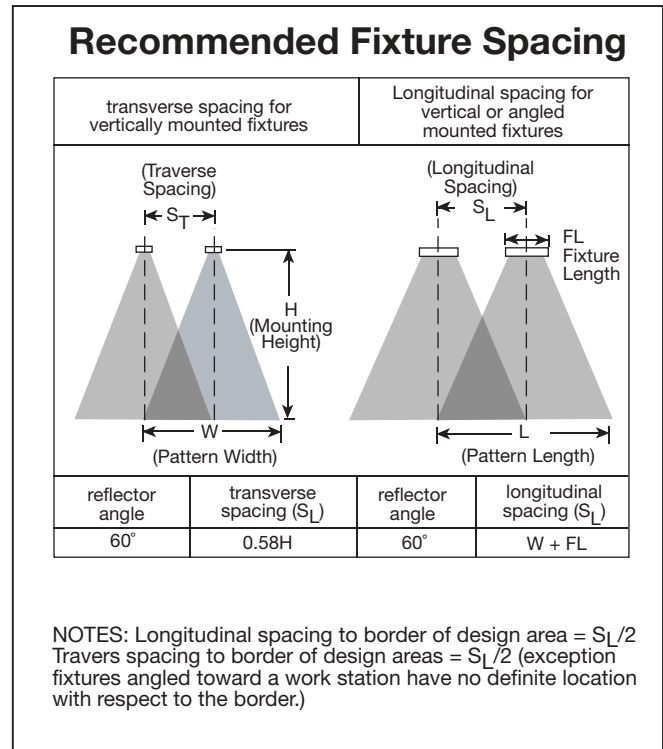

Figure 9: Recommended spacing for 50% overlap
9. If the design area exceeds the pattern area of individual fixtures, locate multiple fixtures with patterns overlapping as necessary. Select fixtures based on 1/4 of the watts per square foot requirement (see Figure 9) at a given mounting height and element. For example, if 25 watts per square foot are required, choose a fixture with an input watt density of 6.3 at the required mounting height. For primary area heating do not install less than 12 watts per square foot. Double the watt density along areas adjacent to the outside walls of the building. Do not radiate outside walls.